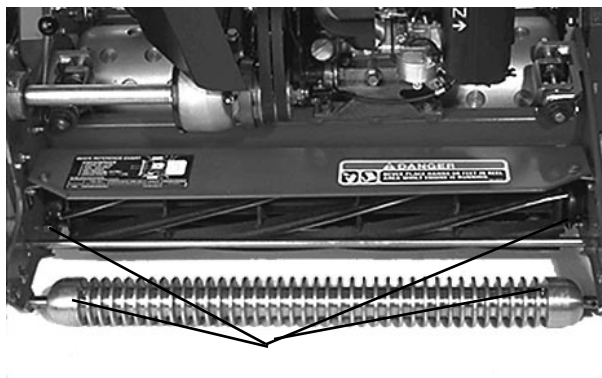
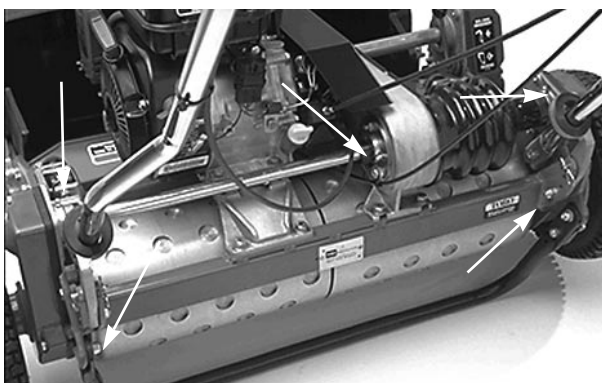

Figure 17
Figure 18
2. The grease fitting locations are: (2) on The front Roller (Fig. 17), (2) on the reel bearings (Fig. 17), (2) on Drum Axles (Fig. 18), (3) on Differential (Fig. 18), (2) on The reel Countershaft Bearings (Fig. 19) and (1) on Belt Idler Pivot (Fig. 20).